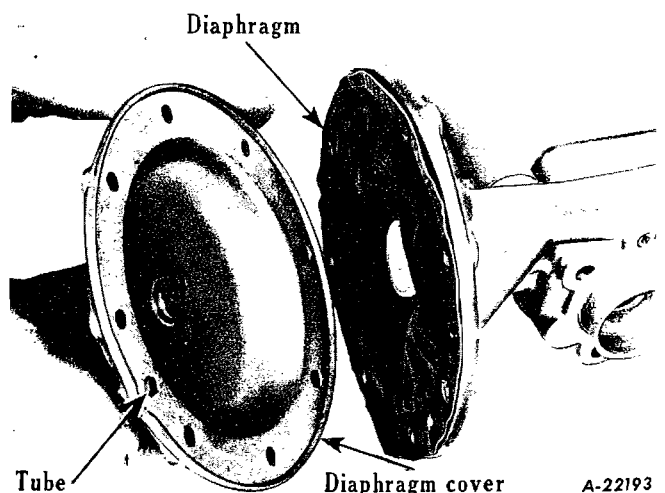

Fig. 65
- Fig. 65 - Remove diaphragm cover. Use a soft hammer and tap lightly around the edge of the cover until cover breaks loose. **DO NOT PRY COVER OFF.** Remove the diaphragm and rod assembly. If diaphragm sticks to the body flange, carefully work it loose with the fingers.
Note: Be sure that suction connector tube (Fig. 65) in cover fits into suction channel in the body properly.